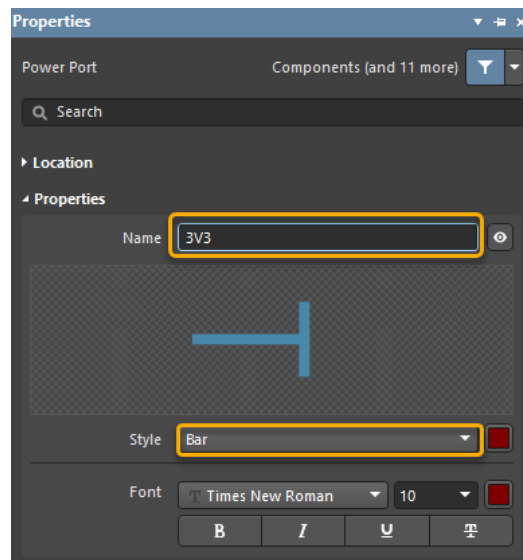

Figure 15. Power port
23. With the Power Port on your cursor, hit the **TAB** key to change the properties, as shown in Figure 15.